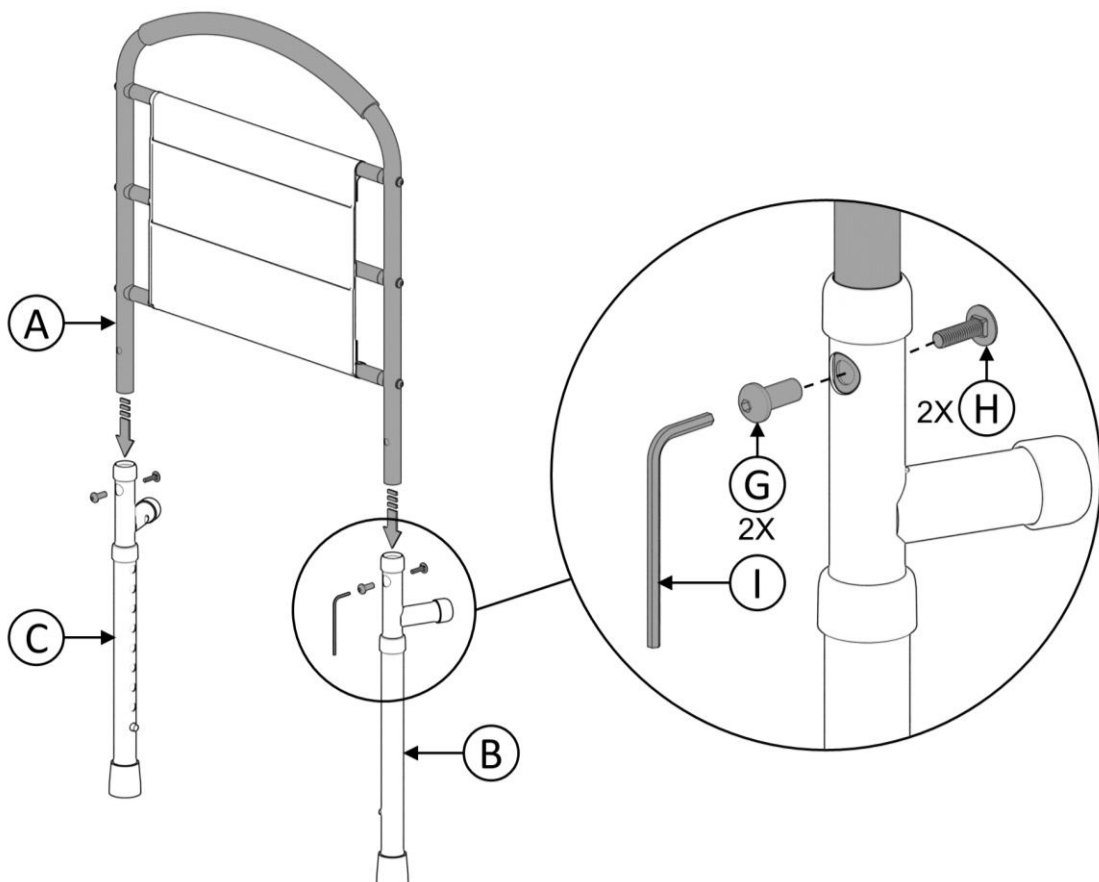

FIGURE 2
2. Insert Handle **A** into Legs **B** and **C** and align holes. Secure Bolts **G** and **H** through holes using provided tool **I**, as shown in *Figure 2*.